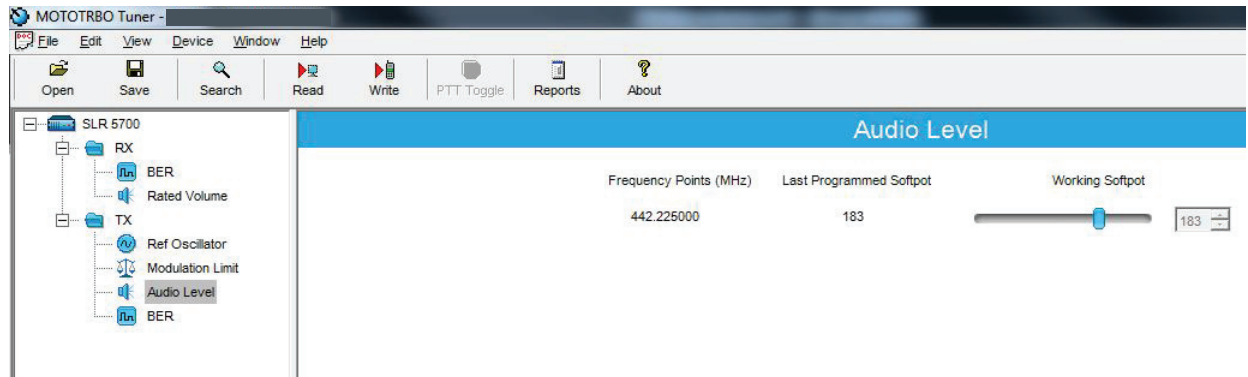

Figure 10-8 Tx Menu Tree (Tx Audio Level)
5. Select “Tx Audio Level” under the Tx menu in the tree view (See Figure 10-8).